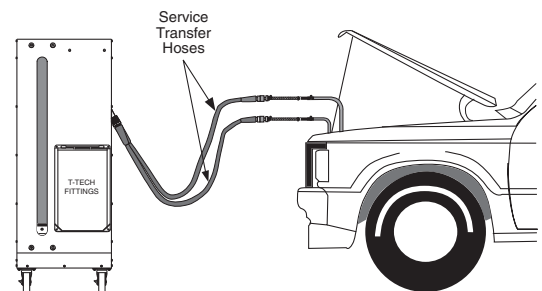

Figure 47. Connection Complete
- Connect a service hose adapter to each service transfer hose (see Figure 47). You are not required to account for fluid flow when making this connection. The **T-TECH** machine will sense the vehicle's fluid direction and adjust so that the used ATF from the vehicle is always coming into the bottom of the **T-TECH** cylinder and the new ATF is moved out of the top of the **T-TECH** cylinder and into the vehicle transmission. When the transfer hoses have been connected, the system should look like the illustration in Figure 47.